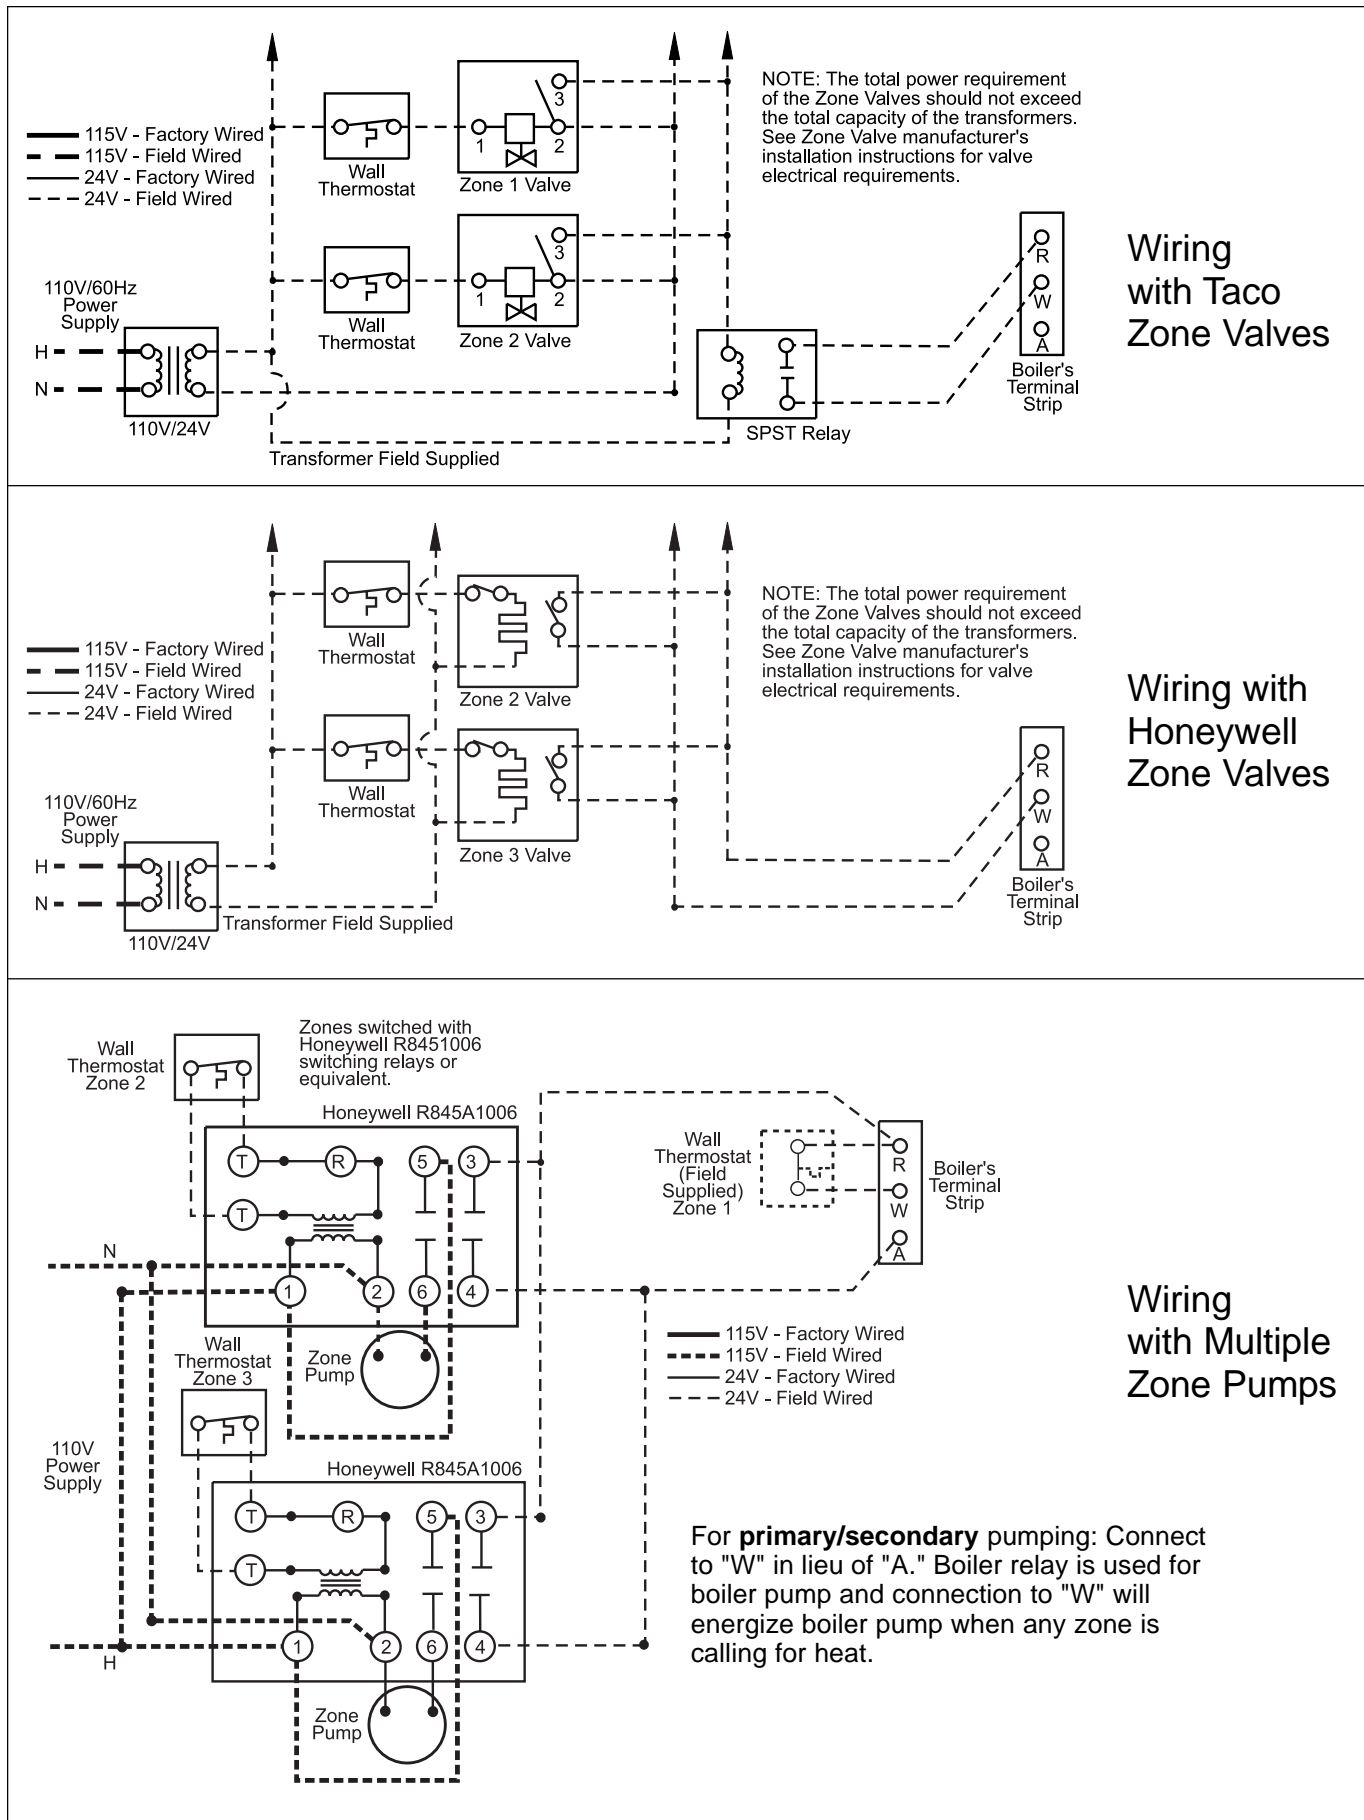

Figure 10. Multiple Zone Wiring.
7. For systems with multiple zone pumps or valves, see Figure 10.